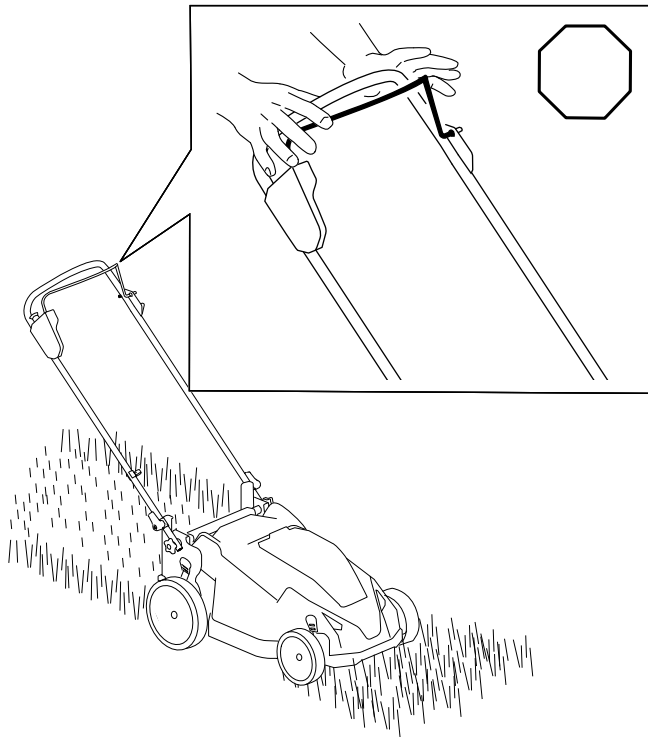

Figure 19
1. Release the blade-control bar (A of Figure 19).